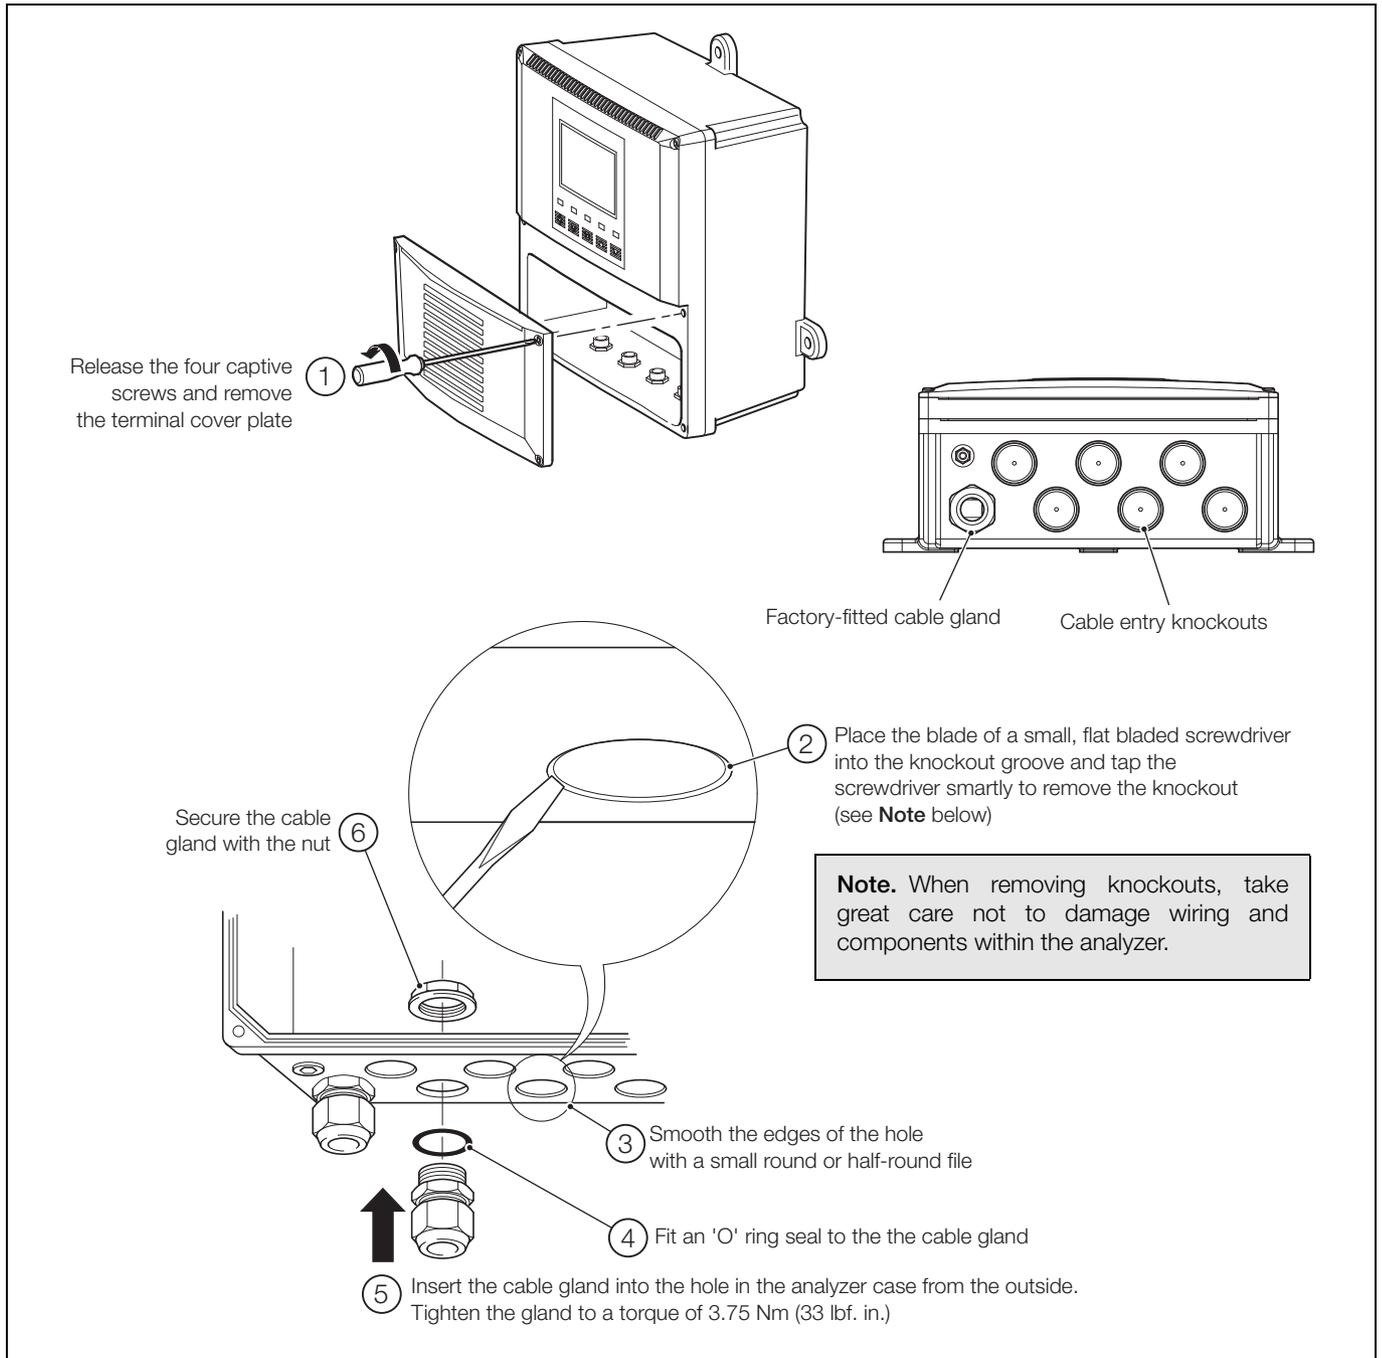

Fig. 6.7 Cable Entry Knockouts, Wall-/Pipe-mount Analyzer
6.3.2 Cable Entry Knockouts, Wall-/Pipe-mount Analyzer – Fig. 6.7
The analyzer is supplied with 7 cable glands, one fitted and six to be fitted, as required, by the user – see Fig. 6.7.